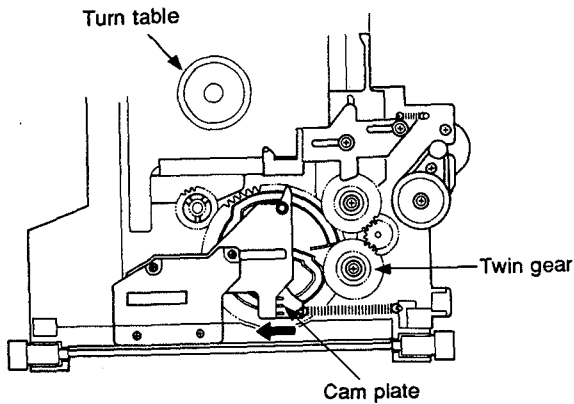

Fig. 3
- ③ Push the cam plate (Fig. 3) in the direction of the arrow and wait until the CD disc is clamped.